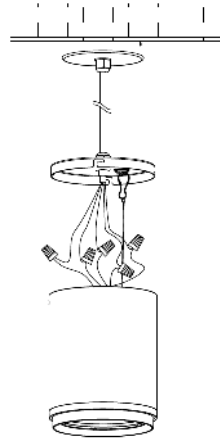

Fig. 12
7. Connect the wires as per the wiring diagram and local electrical code. (Fig. 12)